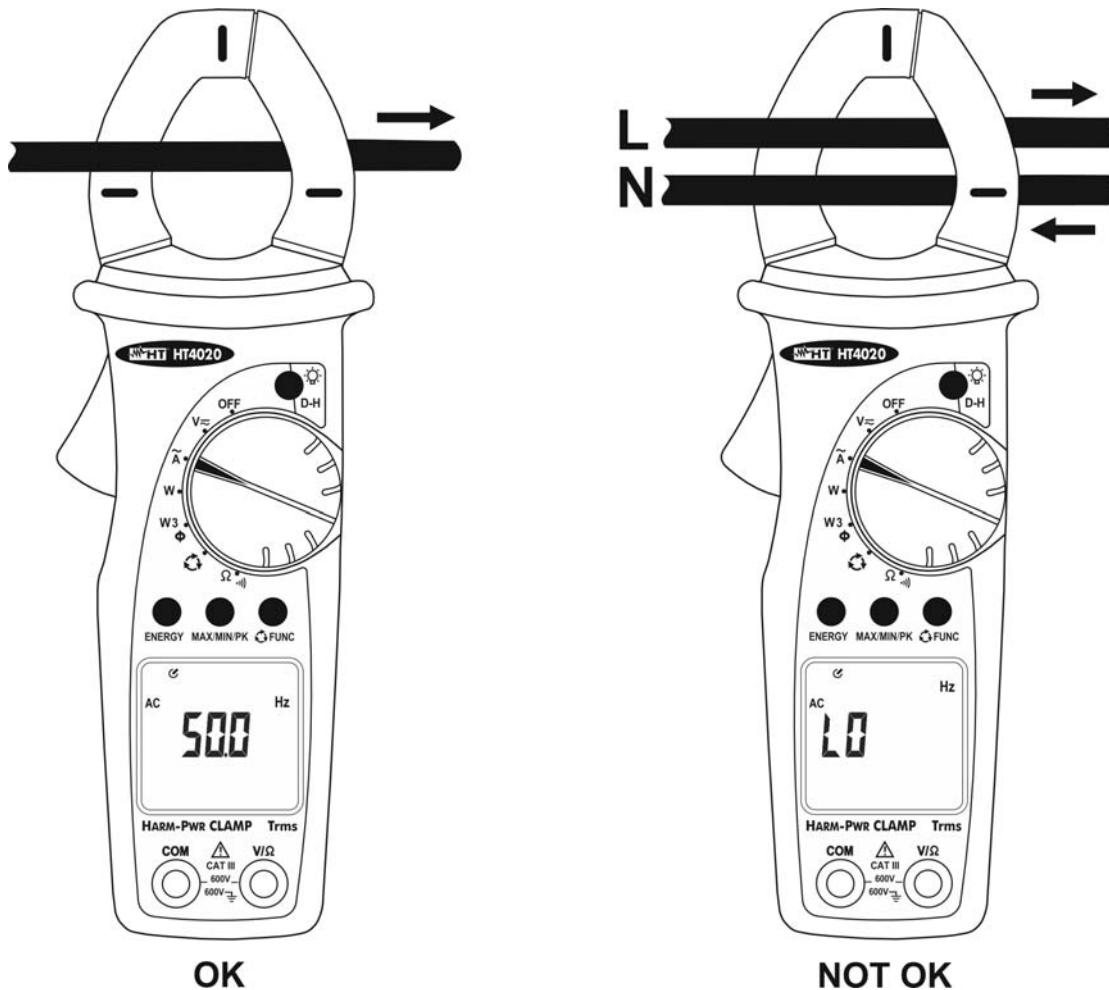

Fig. 9: Use of instrument for AC current frequency measurement
3. Open the jaws and clamp only one cable. Pay attention to the alignment marks (see § 4.1.2. and Fig. 9). The value of frequency is shown on display
4. The symbol “**O.L**” means that the measured voltage is higher than the full scale of the instrument. The symbol “**LO**” is shown in case of wrong connection of the instrument (see Fig. 9) or for measured values lower than the minimum range